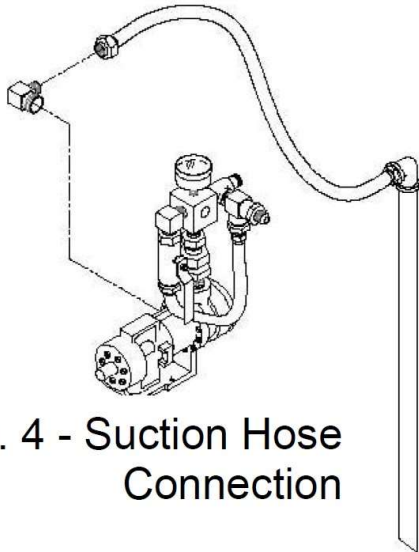

Fig. 4 - Suction Hose Connection
2. Attach the suction hose/pipe to the sprayer using the fitting mounted directly to the pump. (See Fig. 4)